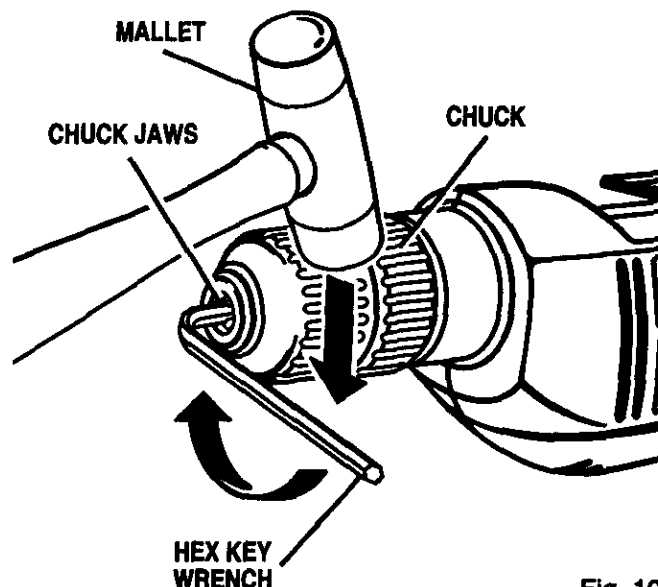

Fig. 10
See Figure 10, 11, and 12.
- Tap the hex key wrench sharply with a mallet in a clockwise direction. See Figure 10. This will loosen the screw in the chuck for easy removal.